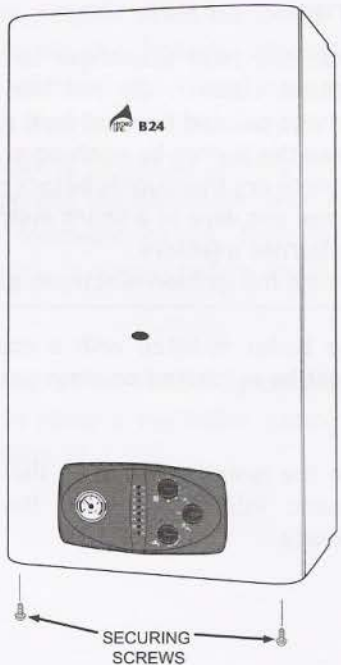

Figure 25
- Open the front panel by removing two screws at the bottom of the boiler, *Figure 25*.